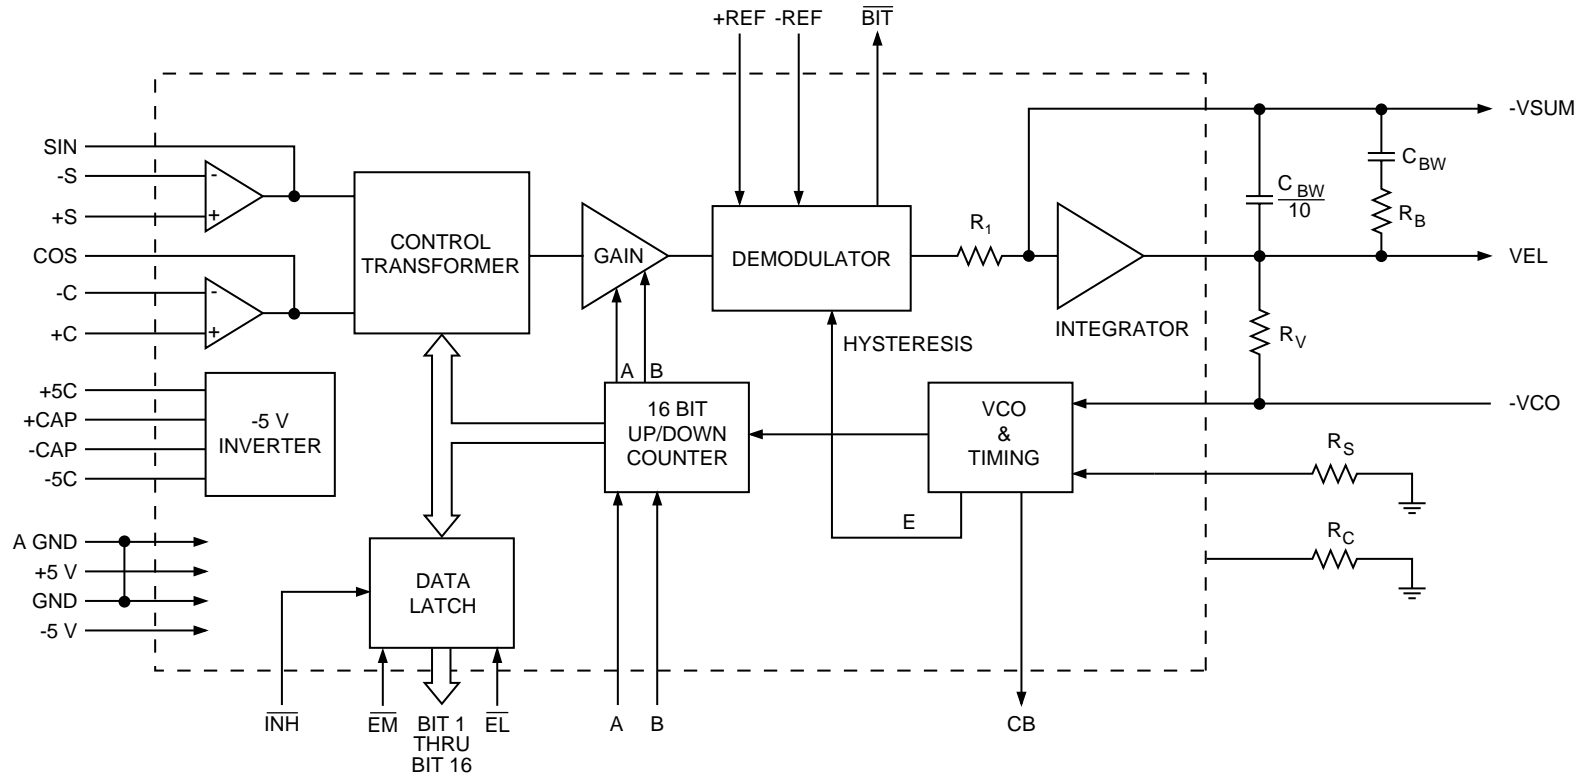

FIGURE 1. RDC-19220 SERIES BLOCK DIAGRAM
FIGURE 1 is the functional block diagram of the RDC-19220 Series. The converter operates with ± 5 Vdc power supplies. Analog signals are referenced to analog ground, which is at ground potential. The converter is made up of two main sections; a converter and a digital interface. The converter front-end consists of sine and cosine differential input amplifiers. These inputs are protected to ± 25 V with 2 k Ω resistors and diode clamps to the ± 5 Vdc supplies. These amplifiers feed the high accuracy Control Transformer (CT). Its other input is the 16-bit digital angle ϕ . Its output is an analog error angle, or difference angle, between the two inputs. The CT performs the ratiometric trigonometric computation of $\text{SIN}\theta\text{COS}\phi - \text{COS}\theta\text{SIN}\phi = \text{SIN}(\theta - \phi)$ using amplifiers, switches, logic and capacitors in precision ratios.